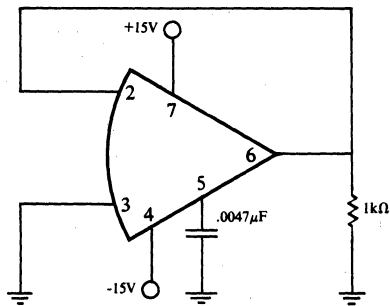

FIGURE 4. Test Circuit, Burn-in and Operating Life Test.
- (1) Test condition B
- (2) Test circuit is Figure 4 herein
- (3) $T_A = 125^\circ\text{C}$ minimum
- (4) Test duration is 160 hours minimum
- (4) Test duration is 1000 hours minimum